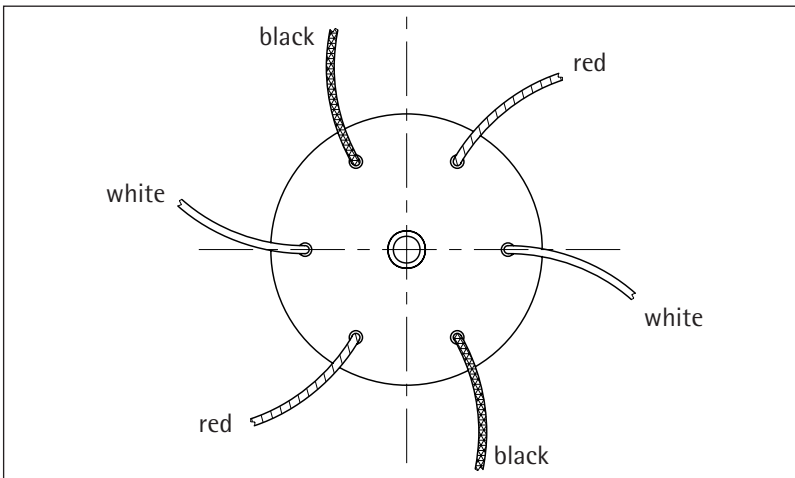

Fig. 7.1
- Connect the heating cables to the electrode pins according to the coloured dots (for cylinders up to 3 electrodes) respectively as shown in Fig. 7.1 (cylinders with 6 electrodes).